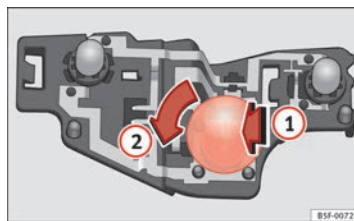

Fig. 148 Position of the bulbs in the bulb holder
- Lightly press the defective bulb into the bulb holder ⇒ Fig. 148 ①, then turn it to the left ② and remove it.